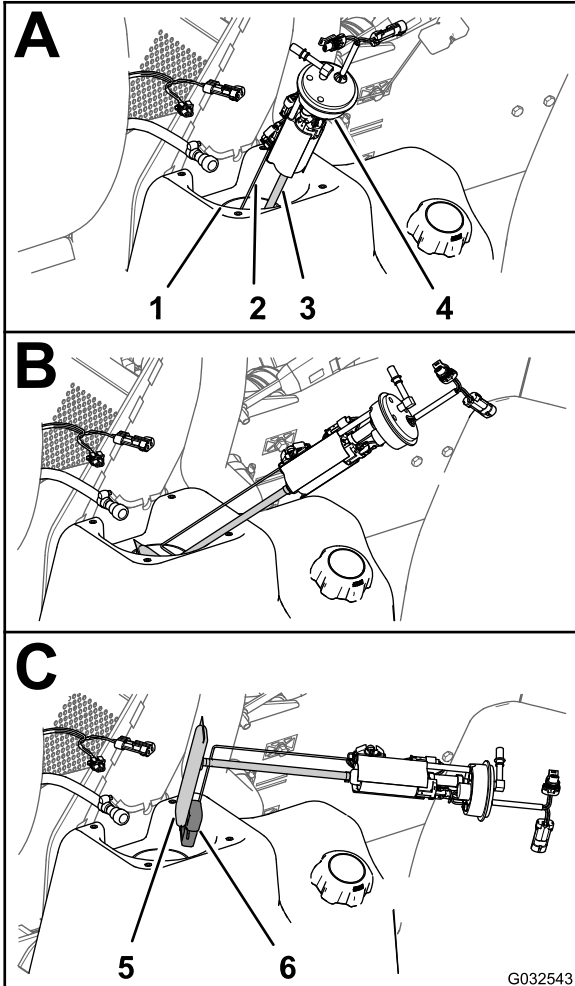
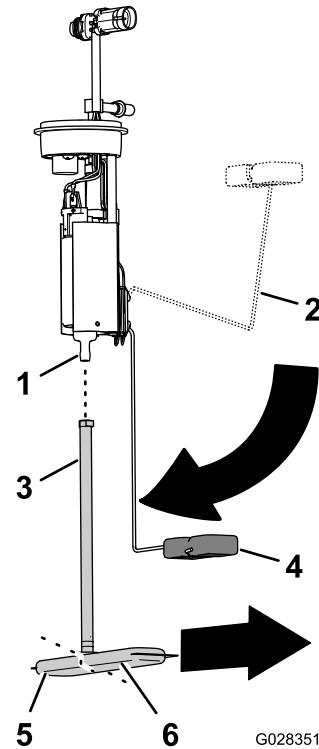

Figure 79
Figure 80
6. Carefully lift and rotate the fuel pump/sending unit out of the neck of the fuel tank (Figure 79).
1. Remove the pickup tube of the fuel filter from the fitting of the fuel pump (Figure 80).
2. Align the pickup tube of the new fuel filter with the fitting of the fuel pump (Figure 80).
3. Align the long leg of the fuel filter with float when the float arm is in the empty position (Figure 80).
4. Insert the fuel-pump fitting into the pickup tube until the fitting is fully seated (Figure 80).
1. Support the float arm and pickup tube together and slip the float and fuel filter into the opening in the fuel tank (Figure 79).
2. Seat the fuel pump/sending unit into the opening in the tank (Figure 79 and Figure 80).
3. Install the seal and nut over the fuel pump/sending and onto the neck of the fuel tank and tighten the nut hand tight (Figure 79).
4. Connect the coupling on the fuel hose to the fitting of the fuel pump (Figure 79).
5. Connect the 2-socket connector of the machine-wiring harness to the 2-pin connector of the fuel pump/sending unit; Connect the 2-pin connector of the machine-wiring harness to the 2-socket connector of the fuel pump/sending unit (Figure 79).